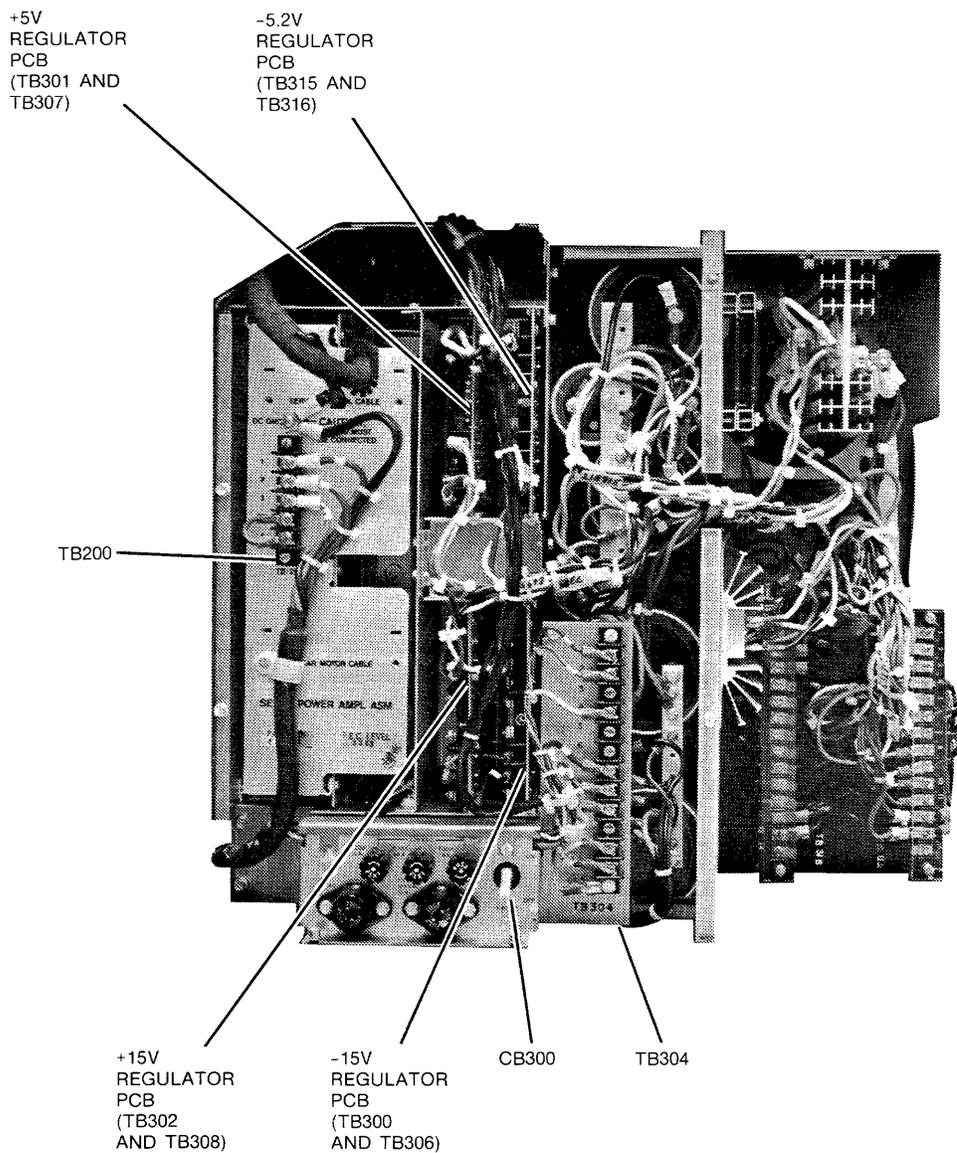

FIGURE 2-7. REAR VIEW, POWER SUPPLY COVER OFF
- ✓ 1. Check TB304 located on the front of the power supply, at the rear of the drive (see Figure 2-7). To access into the power supply, its cover must be removed by loosening two screws (in open slotted holes) down the left side, removing two screws down the center, then pulling out.
- ✓ 2. Check four regulator PCBs, located in the power supply (see Figure 2-7).
- ✓ 3. Check TB200 on the servo power amplifier (see Figure 2-7).
Verify greater than two megohms resistance between the ground terminal on TB304 (Figure 2-7) and the frame.
- 1. Set CB300 on the power supply to ON (see Figure 2-7).